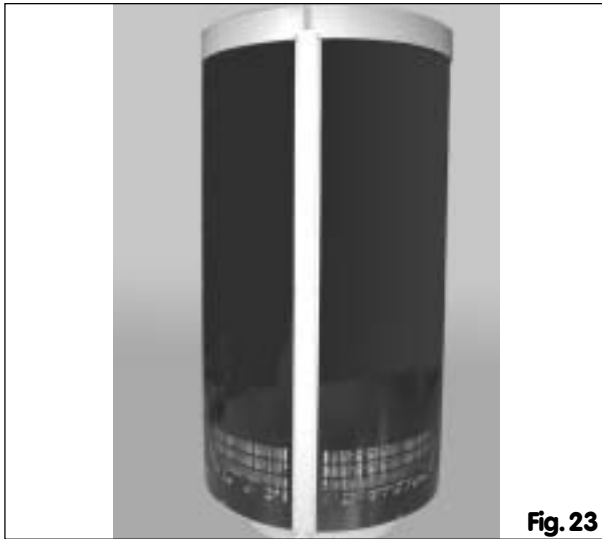

Fig. 23
Now remove the cover panel (41) from package 3, and fit it as shown in Fig. 23.